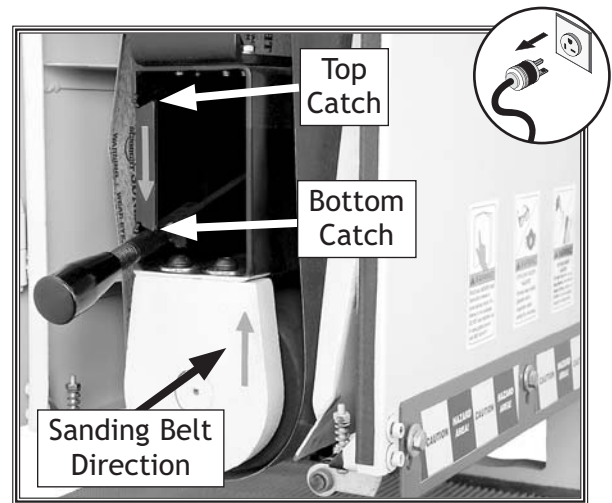

Figure 18. Tension lever secured under the bottom catch.
3. To release the tension on the sanding belt, move the tension lever up and to the right out of the top catch, then use moderate force to push it down and under the bottom catch, as shown in **Figure 18**.
Note: Most sanding belts have arrows printed on their inside surface to indicate the direction of travel for the belt. Match these arrows with the sanding belt direction arrow shown in **Figure 18**.